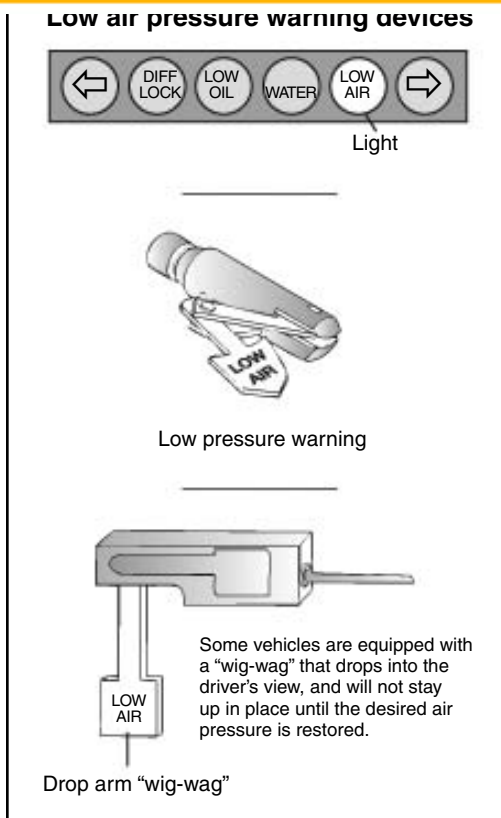

Figure 5.5
**Test low pressure warning signal.** With the engine off and all the brakes released, turn the key on and step on and off the brake pedal to reduce air tank pressure. The low air pressure warning signal must come on before the pressure drops to less than 60 psi in the air tank (or tank with the lowest air pressure, in dual air systems). See Figure 5.5.